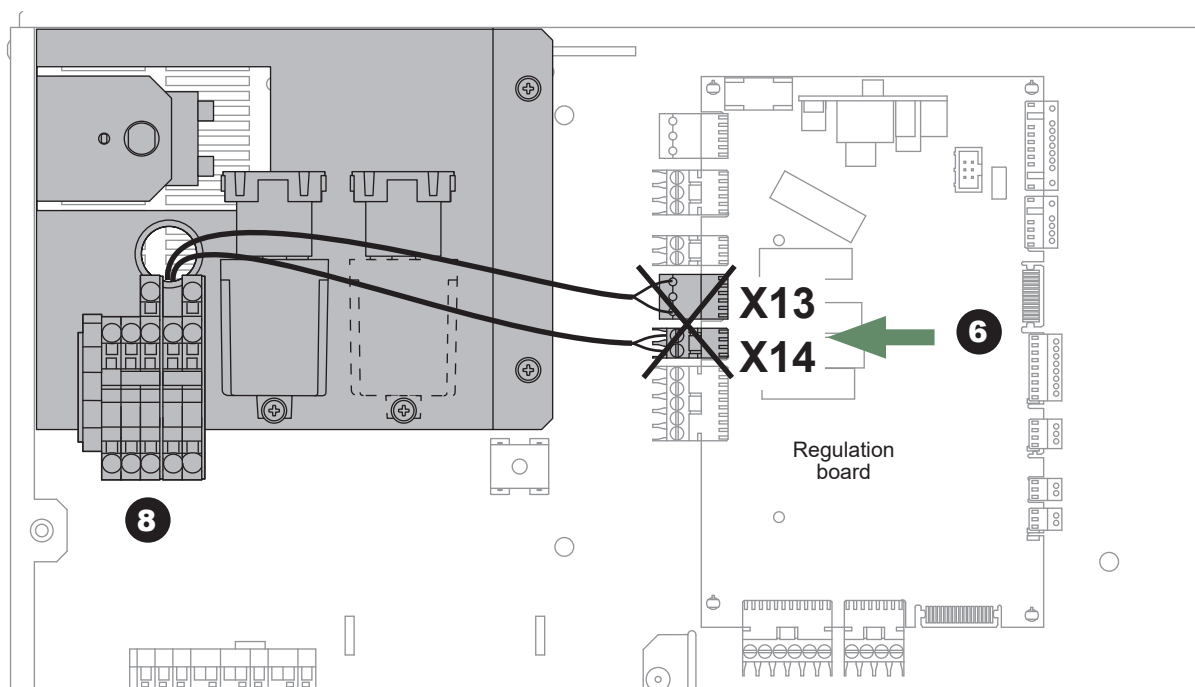

fig. 8 - Disconnection of the single phase electrical back-up
- **6** - Disconnect the X13 and X14 connectors (single phase electrical back-up, see *fig. 8*).